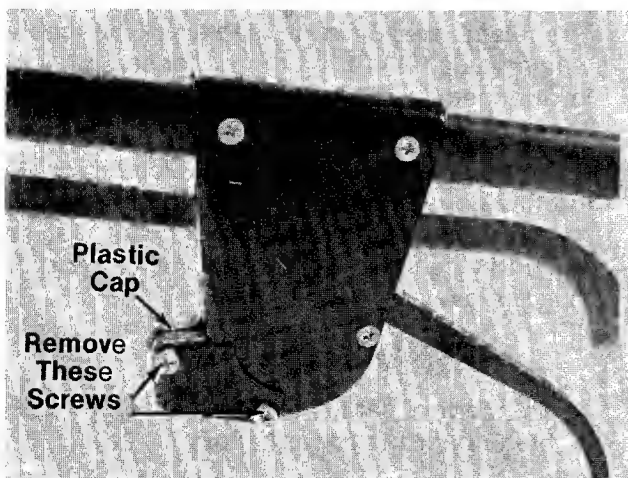

FIGURE 7.
12. Remove the two screws located beneath the clutch control housing on the upper handle as shown in figure 7. A Phillips screwdriver is required. Remove the plastic cap: